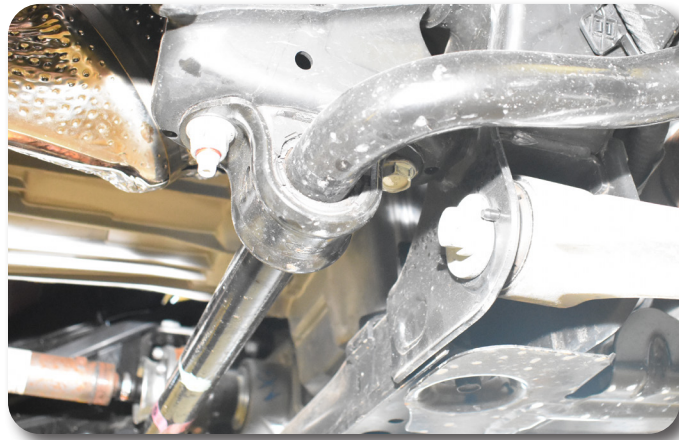

Figure 8
12. Repeat the installation on the back cam bolt now. Note that the nuts must both be on the inner side of the control arm pockets, same as the OE position. The sway bar will need to be removed from the frame in order to remove the rear cam bolt **Figure 8**.